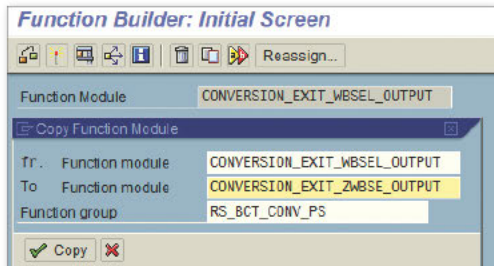

Figure 2 Copy Function Module on the Transaction SE37 Screen
2. For this example, copy the function module CONVERSION_EXIT_WBSEL_OUTPUT to a custom function module so that you can change the existing logic.¹ This can be done using the copy function in the Transaction SE37 FUNCTION BUILDER: INITIAL SCREEN (see Figure 2).
5. After you enter the name of the custom function module in Figure 2, click the COPY button on that screen to open the FUNCTION BUILDER screen (see Figure 3).